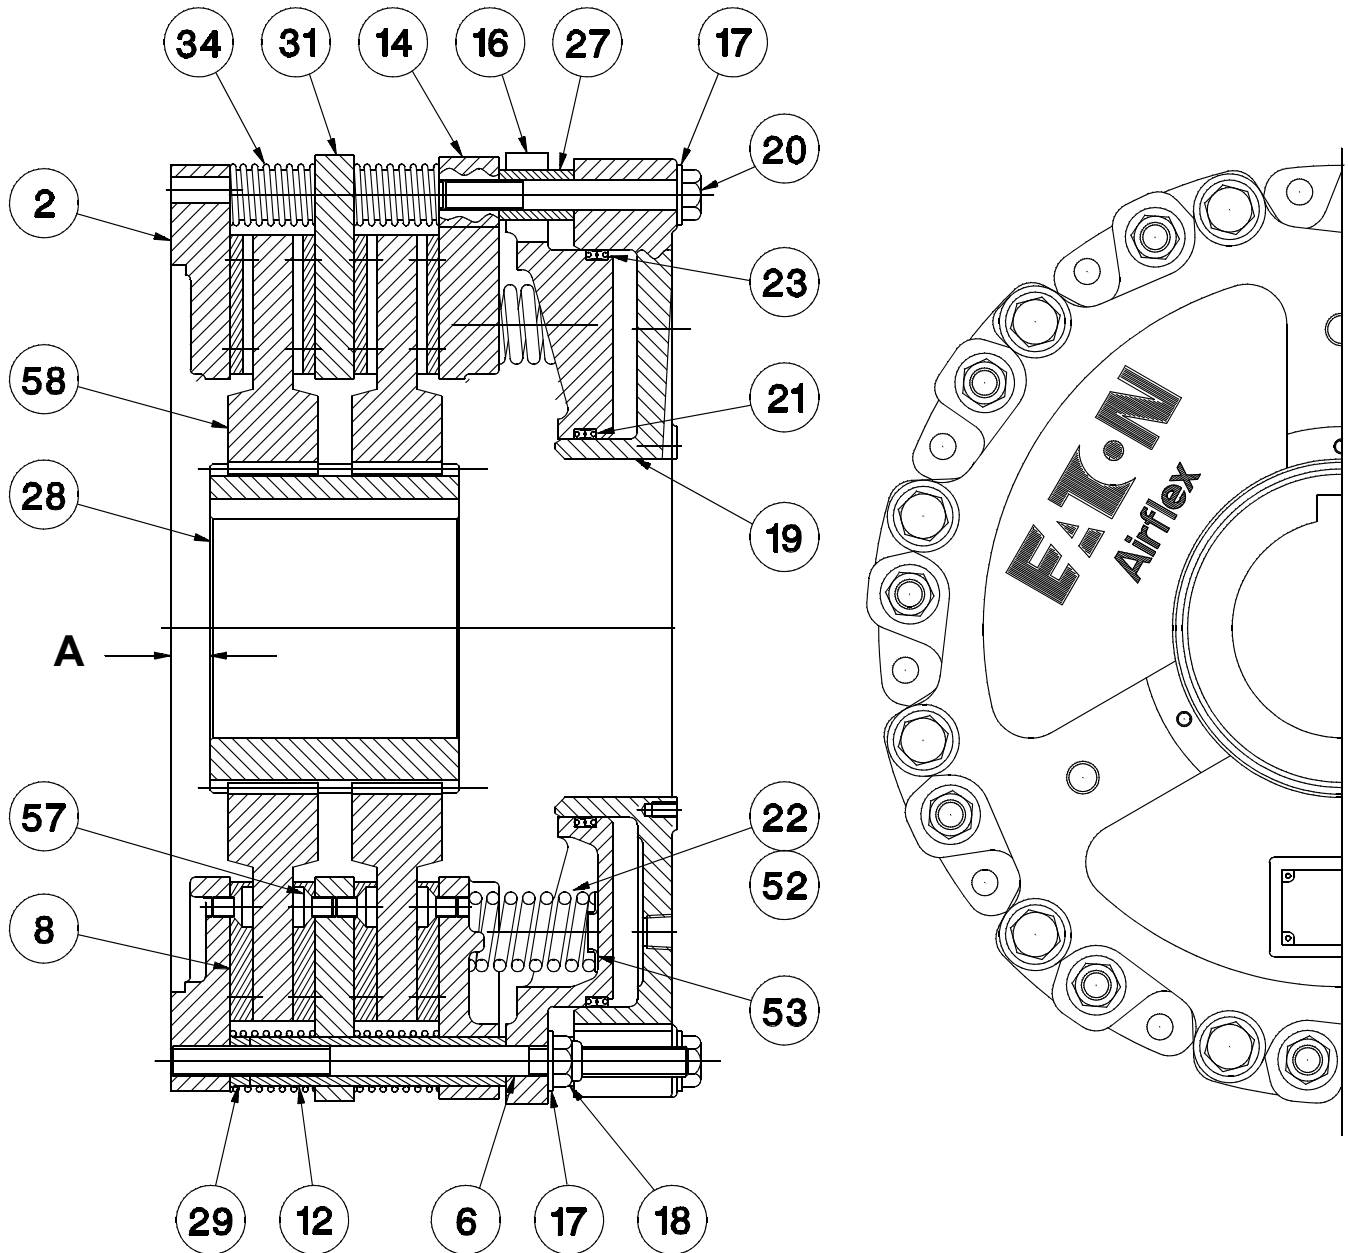

Fig. 1
- 1.2.1 Referring to Figure 1, the gear (28) is mounted on the shaft which is to be stopped. The brake assembly is attached to the machine frame or reaction bracket. As air pressure is applied through the ports in the cylinder (19), the cylinder and pressure plate (14), which are attached to each other with screws (20), flat washers (17) and spacer tubes (27), move away from the mounting flange (2), which is connected to the machine frame or reaction bracket. The pressure plate compresses the springs (22) against the stationary spring housing (16) and the clamp force is removed from the discs (58) which ride on the gear. The shaft is then free to rotate.
- 2.2.4 Press the gear onto the shaft, making sure the dimension between the gear and brake mounting surface ("A") is held at 1.00" (25,4). See Figure 1. Heating the gear uniformly to approximately 250°F (121°C) will expand the bore and ease assembly.